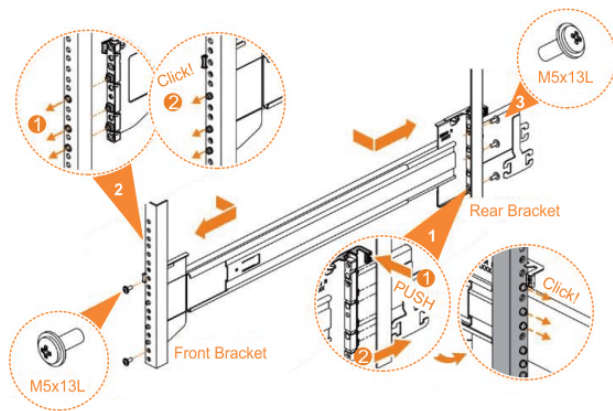

Figure 47. Installing the rail assembly to the rack frame
6. Use the M5 screws to install the outer rail member and bracket assembly to the rack, as shown in Figure 47 on page 87.